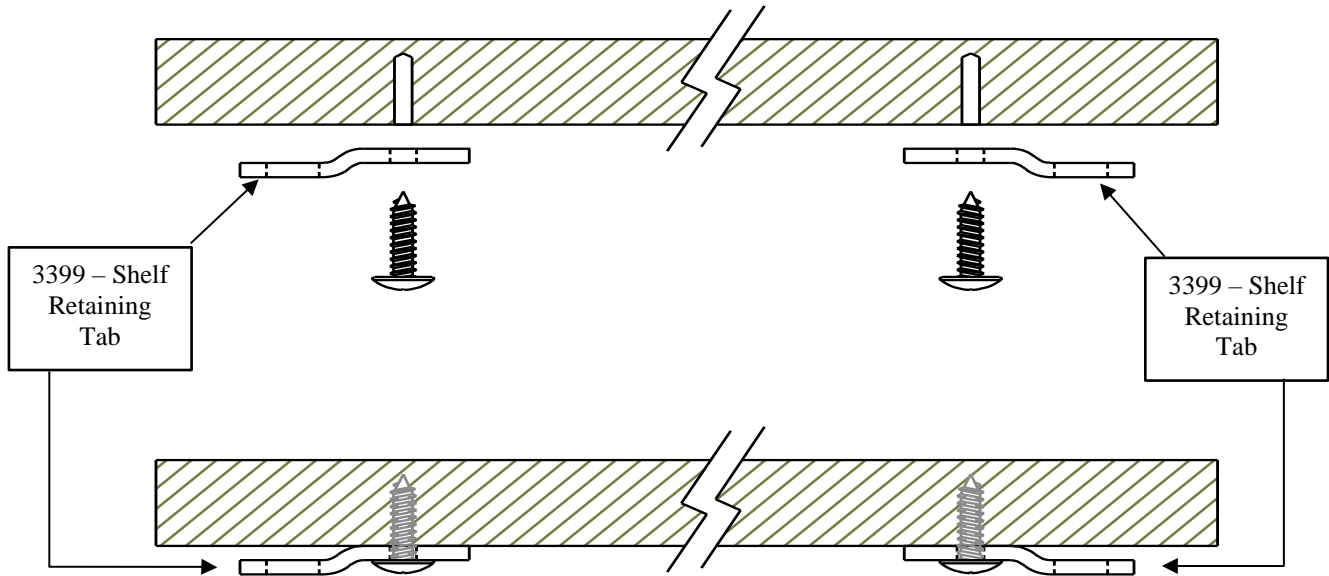

Figure 9
1. Install 2 shelf retaining tabs (#3399) to the bottom of each floor using #10-12 x .75" phillips truss head screws. USE THE HOLE NOT THE SLOT IN THE TAB. Turn the screws in until the safety tabs are pulled securely to the floor, then back the screws out approximately 1/8 of a turn. This will allow the tab to be turned while retaining a small amount of tension. See Figure 9.